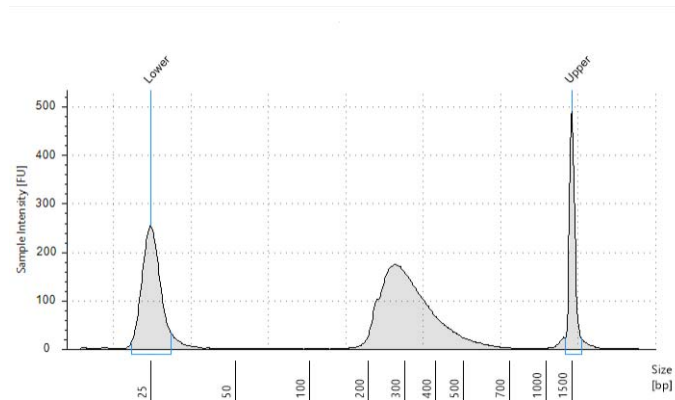
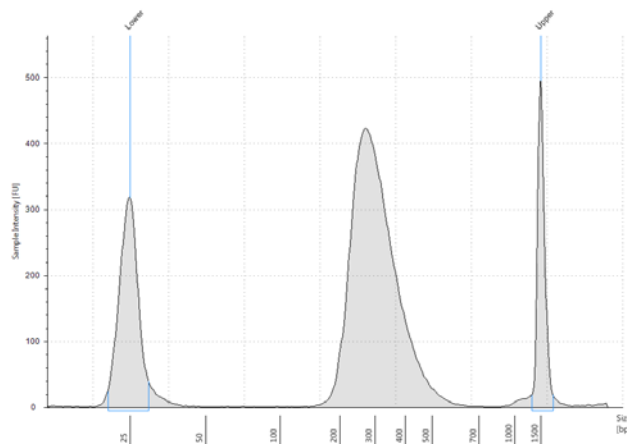

Figure 8 Post-capture amplified library DNA prepared from a high-quality RNA sample analyzed using a High Sensitivity D1000 ScreenTape.
Figure 9 Post-capture amplified library DNA prepared from an FFPE RNA sample analyzed using a High Sensitivity D1000 ScreenTape.
- 3 Verify that the electropherogram shows the peak of DNA fragment size positioned between 200 to 350 bp. Sample electropherograms are shown in Figure 8 (library prepared from high-quality RNA) and Figure 9 (library prepared from FFPE RNA).